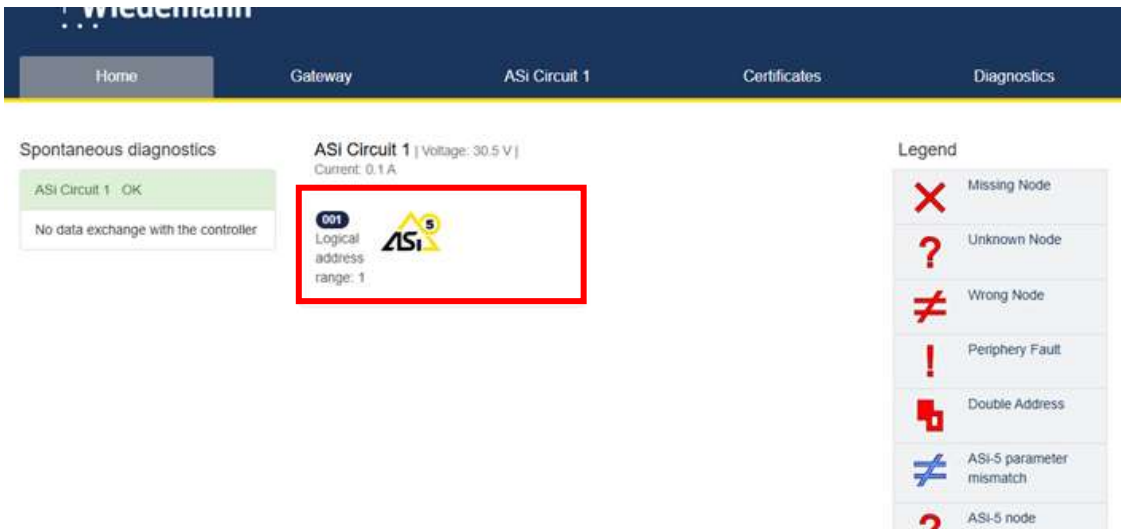

Figure 28. BWU3847 Webserver Home Tab
- a. On **Home** tab, the ASi Slave is listed in ASi Circuit 1, see Figure 28.